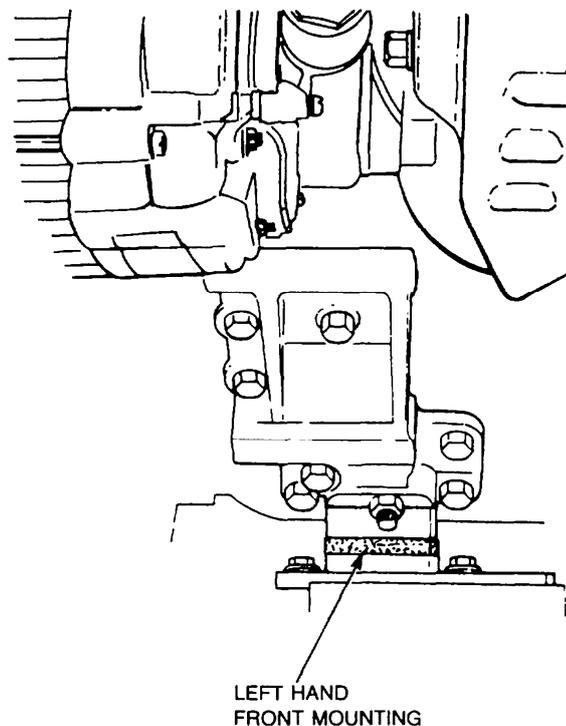

Figure 3 Engine Front Mounting (Left)
- 19.** Remove the engine front mounting as follows (Figure 3):